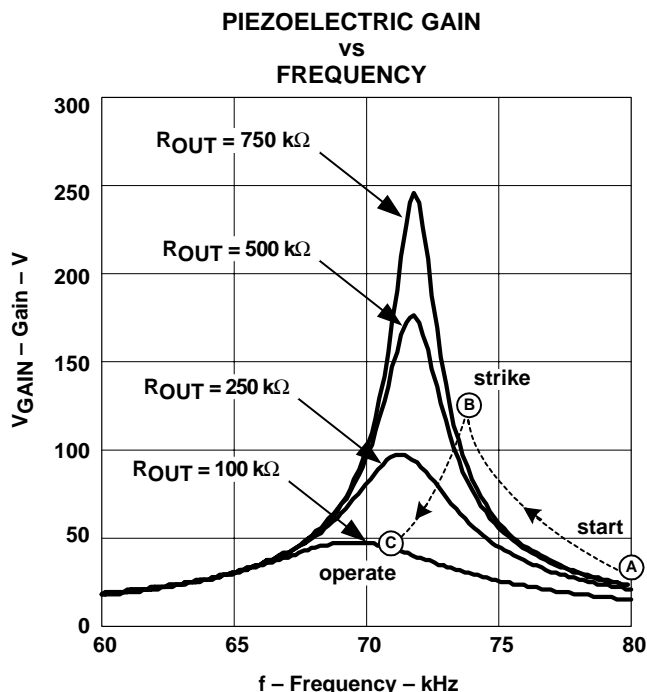

Figure 9
Figure 9 illustrates the gain-vs-output load and frequency characteristics for a 12-layer, 70-kHz PZT with the following Figure 8 values:
As shown in Figure 9, the ceramic transformer provides high Q and gain under light or no-load conditions producing a high-strike potential. Once the lamp strikes the transformer becomes loaded, causing the transformer gain to decrease and resonant frequency to shift. The piezoelectric transformer is typically operated on the right side of resonance to allow the lamp to be struck and operated with a single direction control circuit. A typical application has separate start (A), strike (B), and operating (C) frequencies (see Figure 9).
A cold cathode fluorescent lamp has non-linear V-I characteristics as shown in Figure 10. The lamp's intensity (lumens) is roughly proportional to lamp current where lamp voltage remains somewhat constant over the operating range. Lamp voltage is dependant on the diameter and length of the lamp used in the application. This results in increased impedance when the lamp is dimmed. The impedance of the lamp will influence the gain of the piezoelectric transformer (see Figure 9) and thus the operating frequency of the system.
The frequency range of the VCO must include the strike and operating frequencies of the PZT with some tolerance included for component variation. Minimizing the programmable range improves the control response of the feedback loop. For example, a frequency range of 67 kHz to 77 kHz might be used for the PZT in Figure 9. The gain of the PZT must guarantee sufficient lamp voltage at minimum input voltage to ensure that the control loop will always operate on the right side of resonance.
Feedback design with a PZT requires both modeling and measurement. The uncompensated feedback gain for the system is primarily affected by the gain slope of the PZT near its resonant operating frequency as shown in Figure 9. For most designs, the safe unity gain crossover frequency of the feedback loop will be determined by the amount of gain peaking that occurs at the resonant frequency of the PZT transformer. R_{FB} and C_{FB} are selected to have a fairly low crossover frequency to ensure that the system gain does not increase above unity at the resonant switching frequency. Since the gain slope is dependant on the lamp load and PZT model, it is recommended that a network analyzer is used to validate sufficient gain and phase margin for the design.
- What is the gain of the transformer at various load conditions? (see Figure 9)
As an example, suppose a piezoelectric transformer is selected that operates efficiently at 67 kHz (similar to Figure 9) and has 0.2- μ F of primary capacitance. An external inductance value of 15 μ H gives a L-C filter corner frequency of 92 kHz. The L-C circuit would provide little attenuation at 67 kHz yet attenuate higher harmonics.